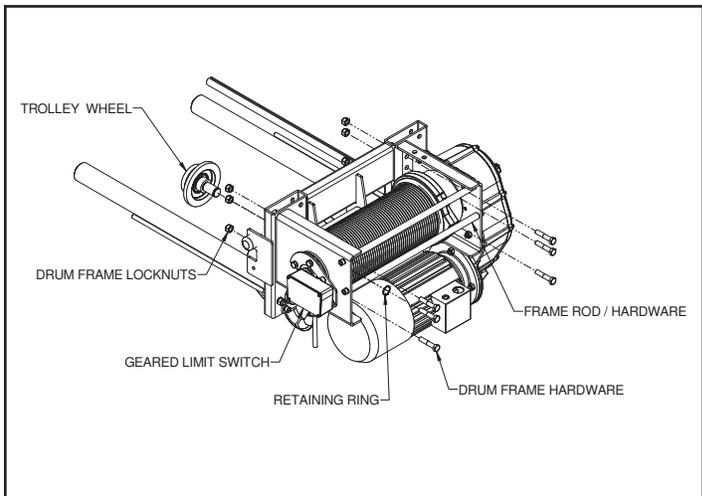

Figure 5-6. Drum Frame & Geared Limit Switch
- (1) To remove rope twist in "A" Frame single reeved hoists:
- b) Remove the geared limit switch or disconnect the wires so that the electrical cable will not inhibit removal of the drum. (see Figure 5-6).
- c) Remove the hoist from the beam, place it on the ground and provide adequate means to support the drum before removing the frame rod cap screws and rods at the outboard end drum frame (see Figure 5-6).